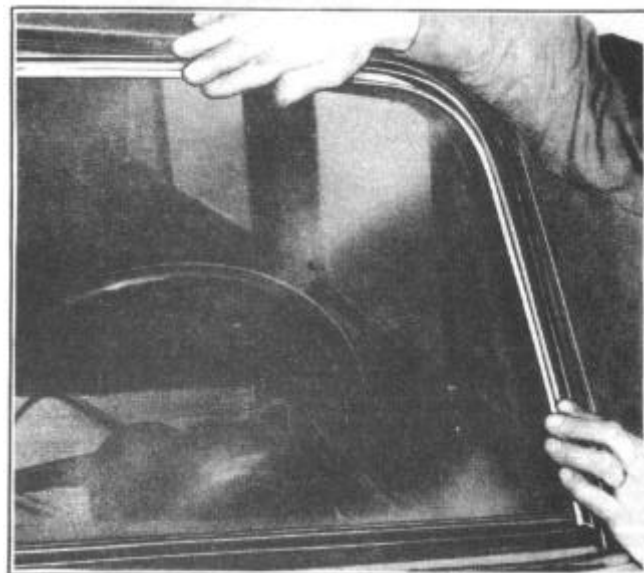

FIGURE 47
1. Install the upper right and left mouldings first by pressing the lip of the mouldings into the lip joint of the weatherstrip, as shown in Figure 47.